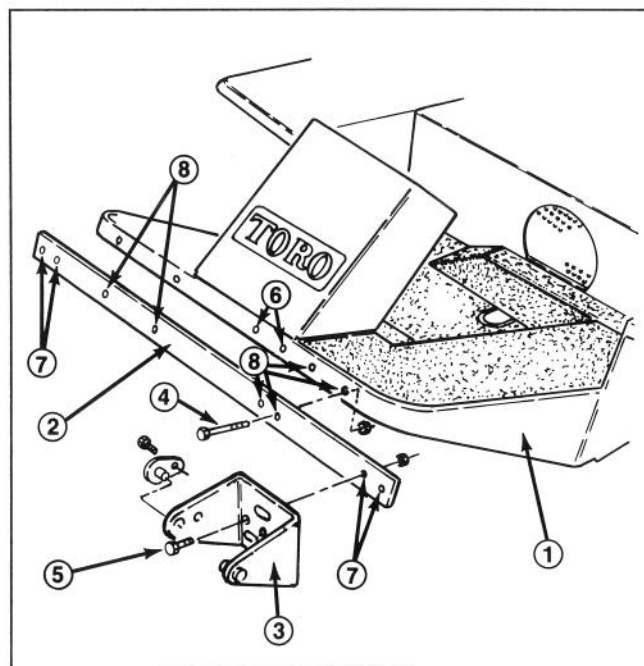
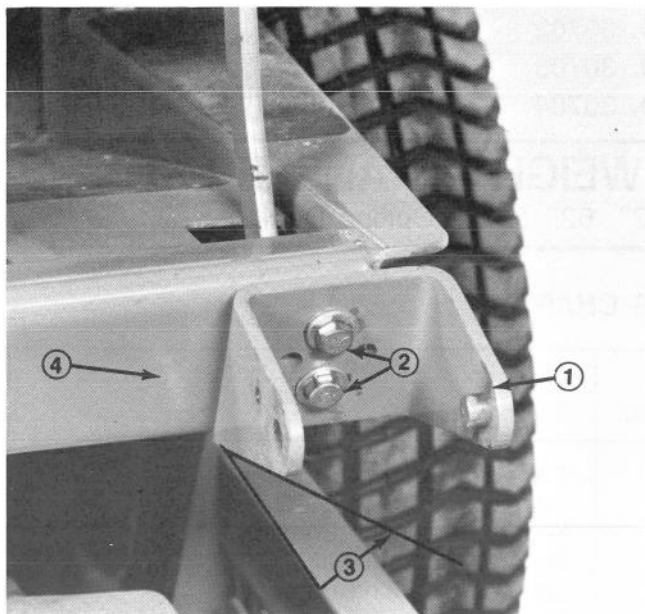
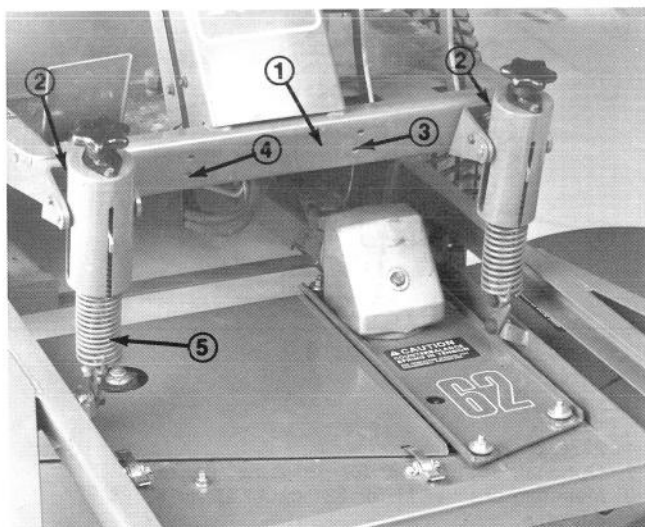

Figure 1
Figure 2
Figure 3
3. FOR 52" CUTTING DECKS - To install a weight transfer kit on either a GROUNDMASTER® 217D or 220, use (2) 3/8" X 2-1/4" capscrews and nuts to secure mounting brackets directly to tractor frame. Use the correct existing mounting holes for the specific size deck (Fig. 1). Tighten capscrews and nuts to 45-50 ft. lbs. and proceed to step 5.
To install a weight transfer kit on a GROUNDMASTER 220D, use (2) 3/8" X 1" capscrews and nuts to secure mounting bracket directly to tractor frame (Fig. 2). Use the correct existing mounting holes for the specific size deck (Fig. 3). Tighten capscrews and nuts to 45-50 ft. lbs. and proceed to step 5.
NOTE: On a GROUNDMASTER 217D or 220 the mounting bracket angles downward (Fig. 1). On a GROUNDMASTER 220D the mounting bracket angles upward (Fig. 2).
4. FOR 62" & 72" CUTTING DECKS – To install a weight transfer kit on either a GROUNDMASTER 217D or 220, use (4) 3/8" X 2-1/4" capscrews and nuts to secure adapter bar (optional – not included in kit) directly to tractor frame. Use the correct existing mounting holes for the specific size deck (Fig. 1). Tighten capscrews and nuts to 45–50 ft. lbs.
Use (4) 3/8" X 1" capscrews and nuts to attach mounting brackets to adapter bar (Fig. 1). Tighten capscrews and nuts to 45–50 ft. lbs.
To install a weight transfer kit on a GROUNDMASTER 220D, use (4) 3/8" X 1" capscrews and nuts to secure mounting brackets directly to tractor frame (Fig. 2). Use the correct existing mounting holes for the specific size deck (Fig. 3). Tighten capscrews and nuts to 45–50 ft. lbs.
NOTE: On a GROUNDMASTER 217D or 220 the mounting brackets angle downward (Fig. 1). On a GROUNDMASTER 220D the mounting brackets angle upward (Fig. 2).